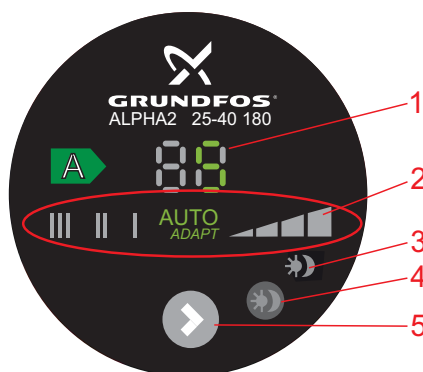

Fig. 7 GRUNDFOS ALPHA2 control panel
GRUNDFOS ALPHA2 has eight optional settings which can be selected with the push-button. See fig. 7, pos. 5.
Light in , see fig. 7, pos. 3, shows that Automatic Night SetBack is active.
The push-button, see fig. 7, pos. 4, activates/deactivates Automatic Night SetBack.
The light field , see fig. 7, pos. 3, is on when Automatic Night SetBack is active.
Every time the push-button is pressed, see fig. 7, pos. 5, the pump setting is changed.